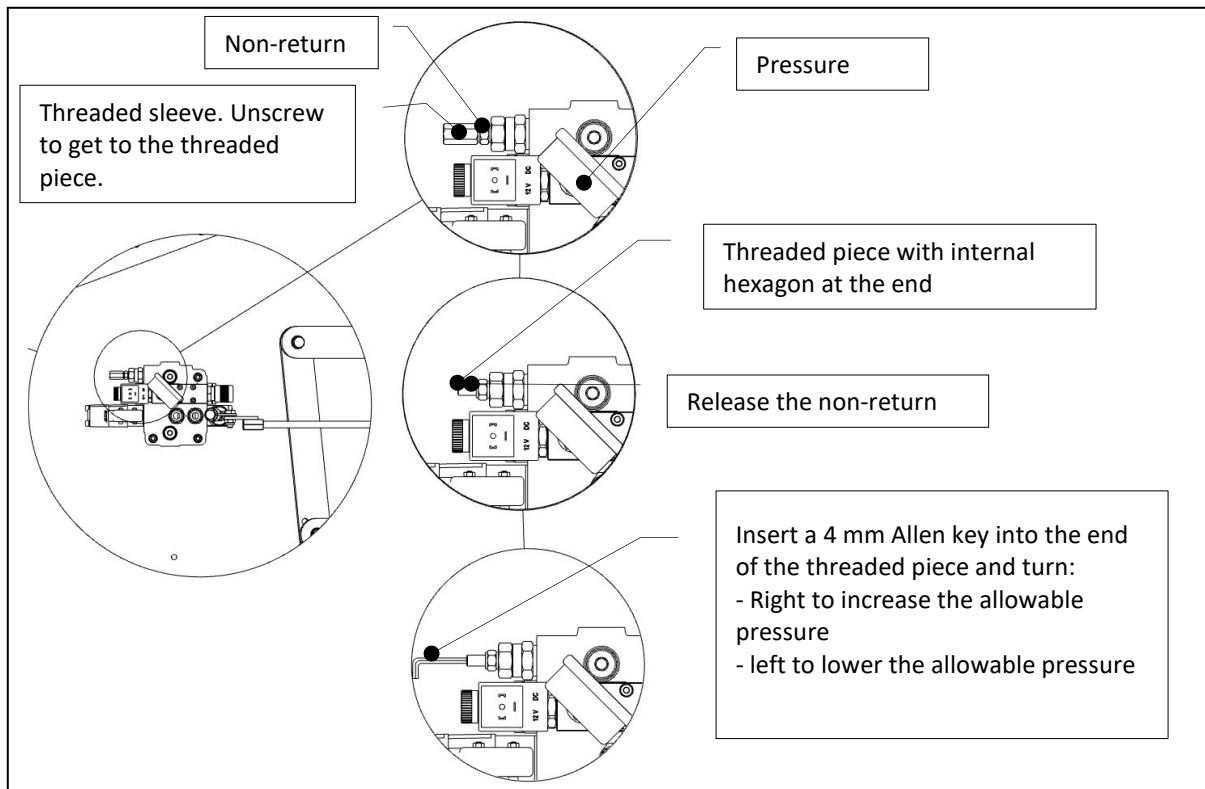

Figure 32
3. When chipping wood, you can read the pressure on the pressure gauge (see Figure 32). The pressure will fluctuate depending on operating conditions and if it exceeds 150 bar, the pressure must be reduced.